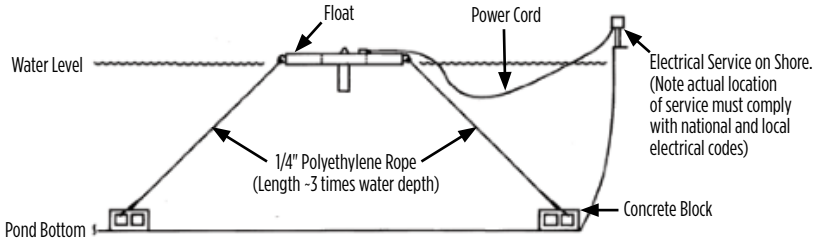
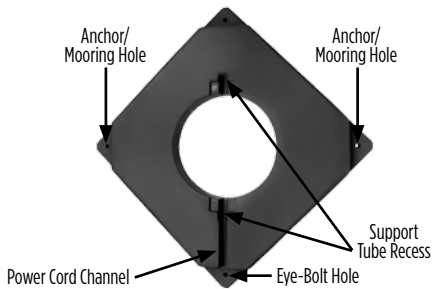

Figure 1
Figure 3
- i. Cut two lengths of 1/4" polyethylene rope. If anchoring to the pond bottom, allow for approximately 3 feet of rope for every foot of water depth (Figure 1). If mooring to the shore, allow for enough rope to reach from the intended float location on the pond surface to a secure mooring location on the shore.
- ii. A minimum of two anchoring/mooring ropes should be used, tied to two opposing corners of the float (Figure 3). Insert one rope-end into one of the anchoring/mooring holes of the float and tie securely. Do the same on the diagonally opposite corner. Only two opposing corners are needed to secure most applications (Figure 1). However, if your application encounters strong windy conditions, anchoring/mooring three or more float corners can reduce drifting of the unit during these conditions.
- i. If anchoring the float to the pond bottom, lower one anchor block to the pond bottom, position the float where desired and lower the other anchor block to the pond bottom, each oriented so that the ropes are at an angle to the float (Figure 1).